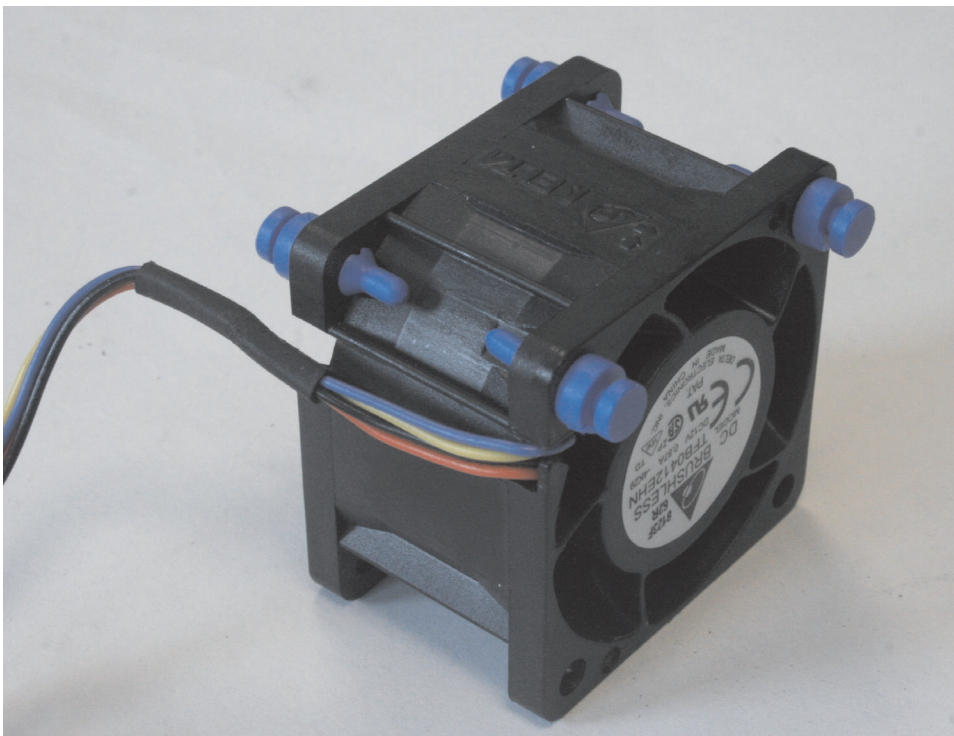

Figure 245. A close up of the SAN Volume Controller 2145-8A4 fan
1. Position the replacement fan, shown in Figure 245, so that the airflow arrow on the side of the fan points toward the rear of the node.